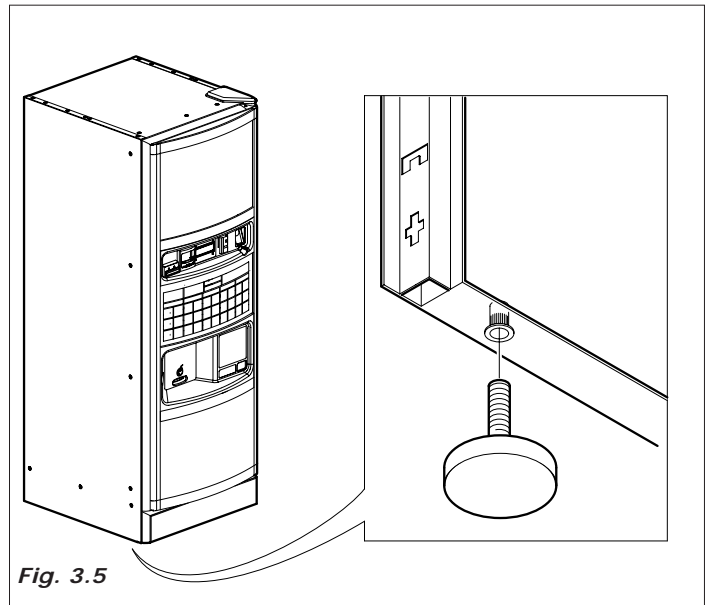

Fig. 3.5
- Release the pallet and insert the 4 feet into the threaded slots (fig. 3.5) freed of the screws (A)